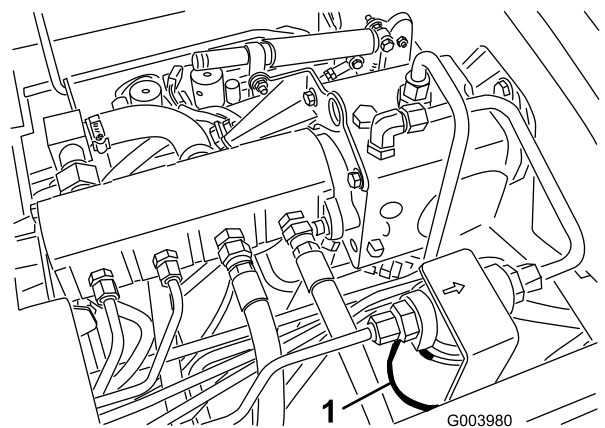
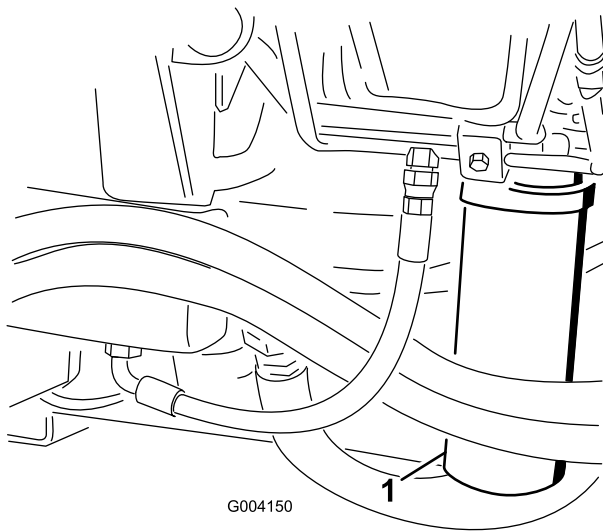

Figure 77
Figure 78
2. Clean the area around the filter mounting area and place a drain pan under filter (Figure 77) and (Figure 78).